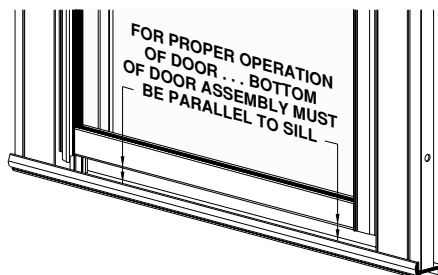

fig.6
7. Lift the Door Assembly (D) onto the curb and slide the Hinge Jamb (d4) over the remaining Wall Jamb. Let magnet strips on Door Strike Stile (d3) and the Strike Jamb (C) meet (see fig 5). Slide the Door Assembly and the Strike Jamb to the desired adjustment (see fig 5). Now check to make sure that you have a parallel alignment between the bottom of Door Assembly and the Sill (see figure 6). When satisfied, secure unit to Wall Jambs using the six(6) Adjustment Screws (H) provided. Recheck to make sure that Door Assembly is still parallel to sill. If it is not, readjust as required using slots on (d4 and C).